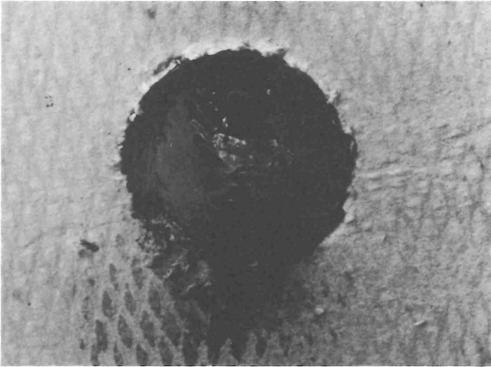

FIGURE 18
8.04 Leave the cartridge in place until the compound stops foaming. (2-3 minutes) Remove the cartridge and trim the tubing flush with the seal. (see Figure 18)